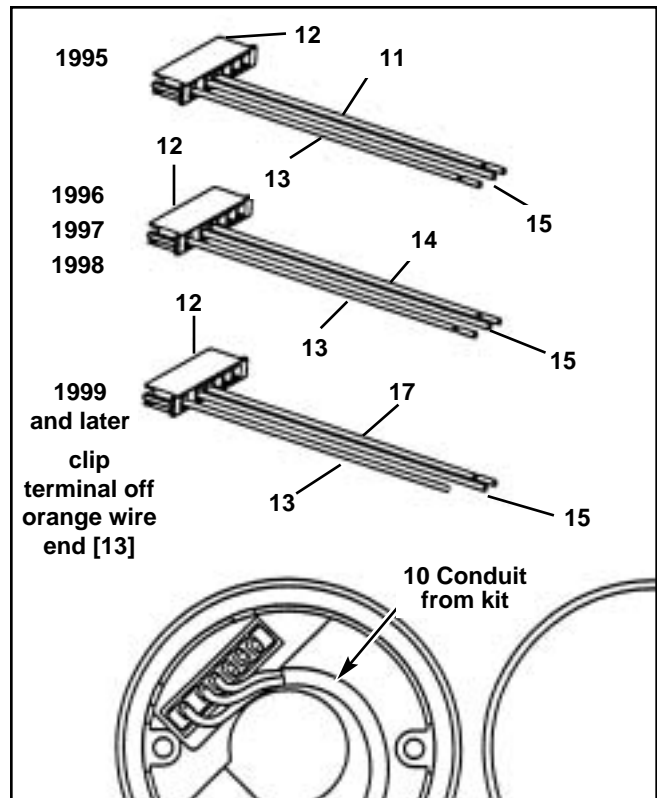

Figure 4. Connecting Harness to Tachometer (Callouts correspond to wires listed in Service Parts)
- 7a. See Figure 4. Assemble the harness for 1995 models as shown from wires, conduit and connector provided in kit. The connector cavity numbers are shown on socket housing (12) and wires must be inserted as follows:
7a. See Figure 4. As dictated by model year, assemble one of the harnesses shown from wires, conduit and connector provided in kit. The connector cavity numbers are shown on socket housing (12) and wires must be inserted as follows: